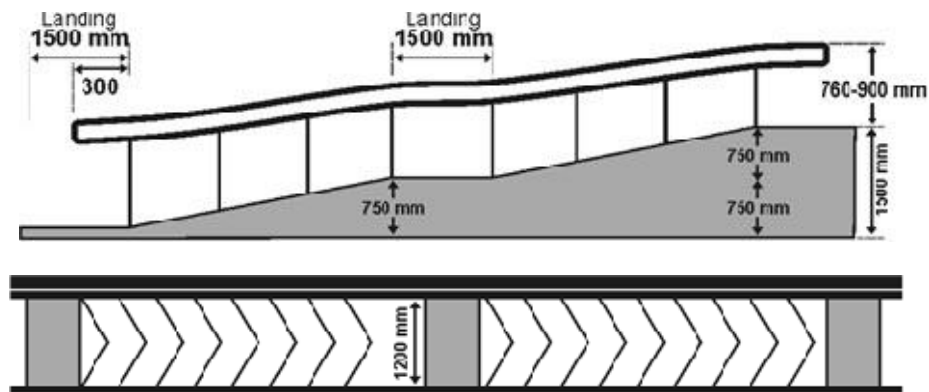

Figure 5.10 Ramp with handrails on both the sides
- To be on both sides at two heights- 760mm-900mm, painted in contrast color against the background wall; both ends to be rounded and grouted and extend 300mm beyond top and bottom of ramp **(Figure 5.10)**